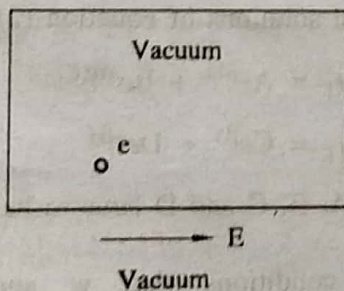

FIG. 1.21 : ELECTRON UNDER THE INFLUENCE OF AN ELECTRIC FIELD
- Let an external field E is applied on the electron when it is in a vacuum shown in Fig. 1.21.